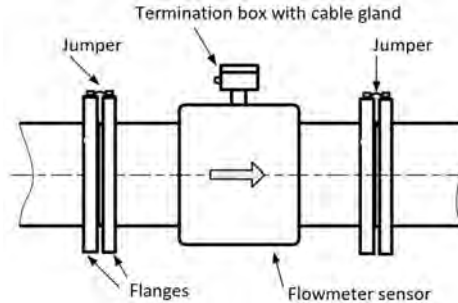

Figure 5.10 Flowmeter sensor flange connection diagram (fasteners on the flanges are not shown)
5.5.1 Before connecting the flowmeter circuits, the flanges of its sensor must be securely connected to the flowing medium. The flowmeter flanges shall be connected with help of conductive jumpers with counter flanges of the pipeline, as shown in Figure 5.10.